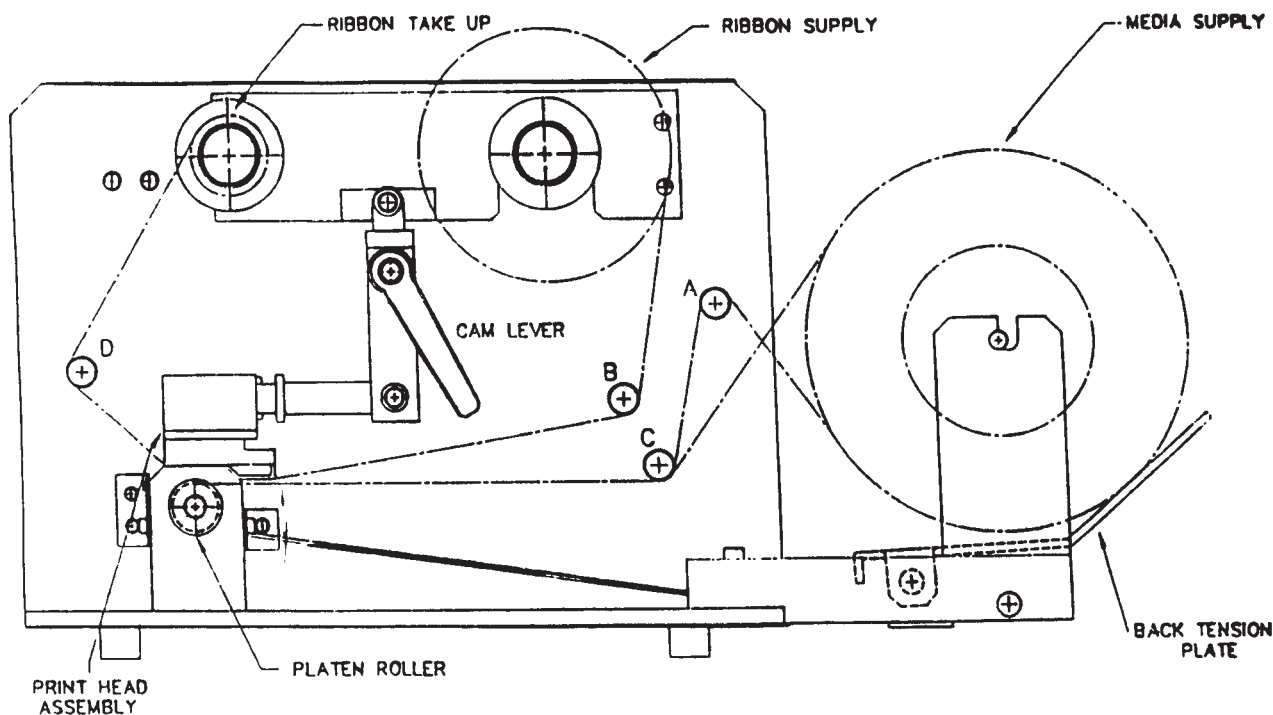

FIG. 1 Atlantek Model 200 (Side View) Test Specimen (Media) Loading—Roll Form
4.1 This test method involves imaging mass thermal transfer product using an Atlantek Model 200 Thermal Response Test System. The equipment is the same as that covered in Test Method F 1405. The equipment differs from that used in Test Method F 1405 in that it contains apparatus to allow for thermal ribbon supply and take-up rolls (see Fig. 1). The system is designed to provide thermal response measurements using printheads commonly used in facsimile units, label printers, medical recorders, plotters, and other thermal printers. This system is based on a special purpose controller board, which drives a standard thermal printer using a programmable stepping drive controller. This system includes provisions for mounting standard performance printheads. A personal computer controls the system with parameter programming accomplished from menu-driven software designed specifically for thermal response and performance characterizations.
13.5.1 *Roll Form Media*—See Fig. 1 for a side view of the test apparatus. Mount the two appropriately sized core plugs into the ends of the core, slide the mounting shaft through the center and insert the shaft into the slots in the supply mounts at the rear of the mechanism. Core plugs are provided for 1-, 1.5- and 2-in. cores. Be sure that the brush side of the back tension plate is in contact with the roll of media.